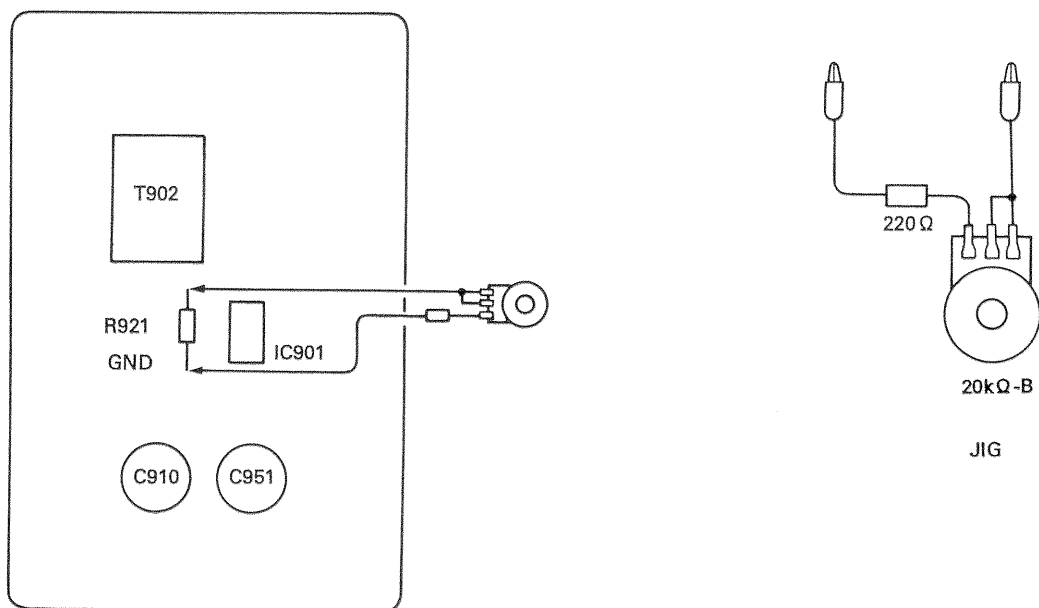

Fig. 2
1. Connect the high voltage voltmeter between the high voltage connector and chassis ground as shown Fig. 2.
4. Connect the jig as shown in Fig. 2 to POWER SUPPLY P.W.B.